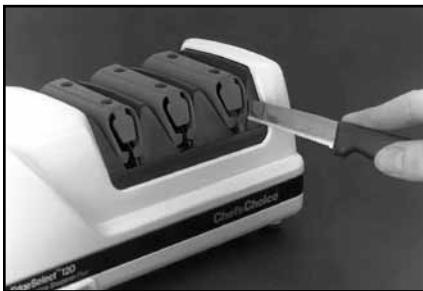

Figure 12. Sharpen serrated blades only in Stage 3. (See instructions).
Serrated blades of all types can be sharpened in the Chef'sChoice® Model 120. However, use **only** Stage 3 (Figure 12), which will sharpen the teeth of the serrations and develop micro blades along the edge of these teeth. Generally five (5) to ten (10) pairs of alternating pulls in Stage 3 will be adequate. If the knife is very dull, more pulls will be needed. If the knife edge has been severely damaged through use, make one fast pull (2-3 seconds for an 8" blade) in each of the